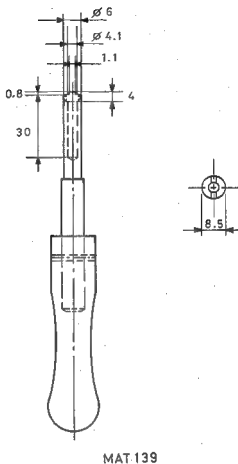

Fig. 3.9. Tool for Position and Level potentiometers
- Unscrew, with the tool indicated in fig. 3.9, the two nuts behind these knobs.
A tool can be made for this purpose as shown in Fig. 3.9. All dimensions are given in millimetres. The material is silver-steel N094, tempered 40-45 Rc. Service order code 5322 395 54024.